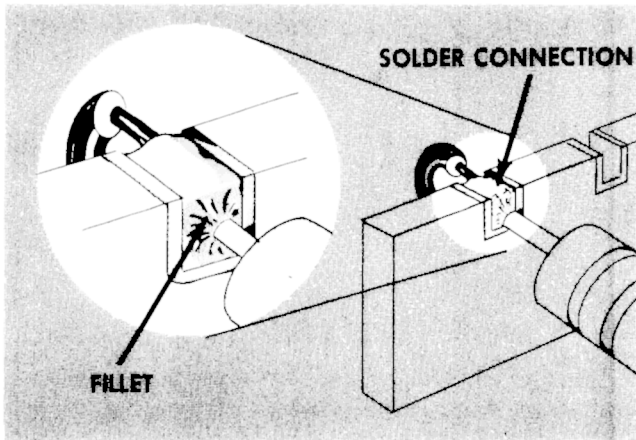

Fig. 4-3. A slight fillet of solder is formed around the wire when heat is applied correctly.
6. Do not attempt to fill the notch on the strip with solder; instead, apply only enough solder to cover the wires adequately and to form a slight fillet on the wire as shown in Fig. 4-3.